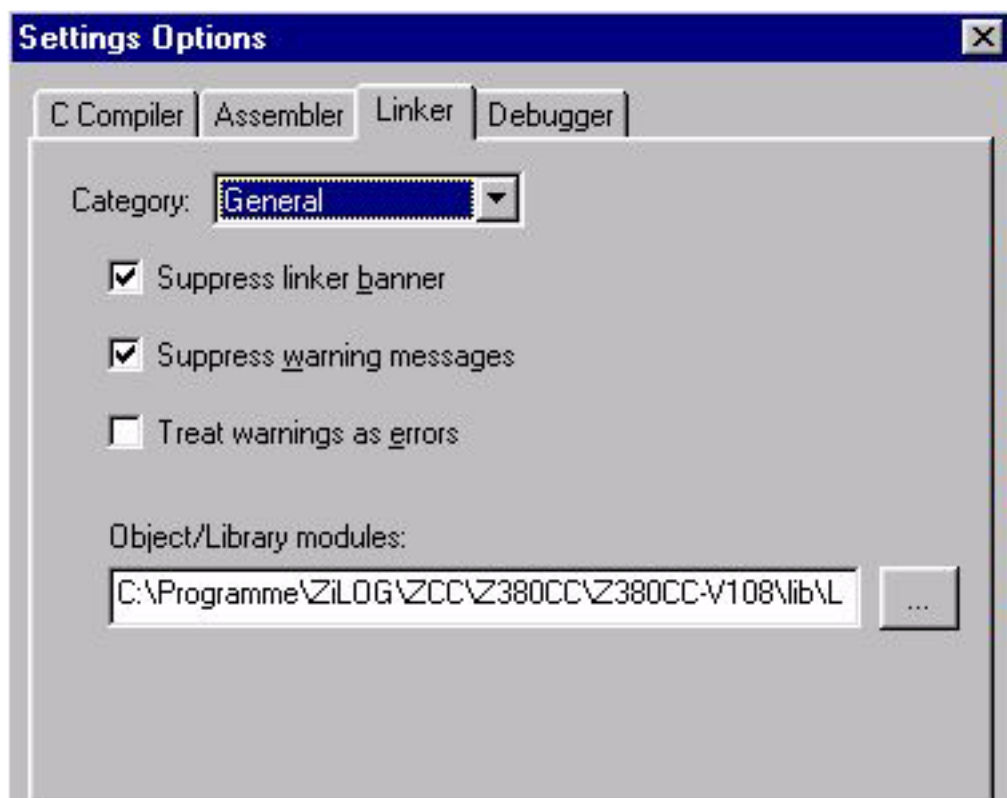

Figure 11. Linker Settings–General
7. Change the library path for the DMA and HDLC library under <Project – Settings – Linker – General - Object/Library> according to the directory in which you installed the libraries. See Figure 11.